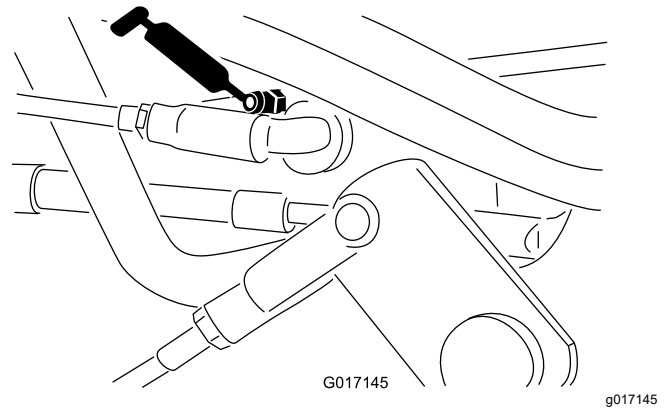
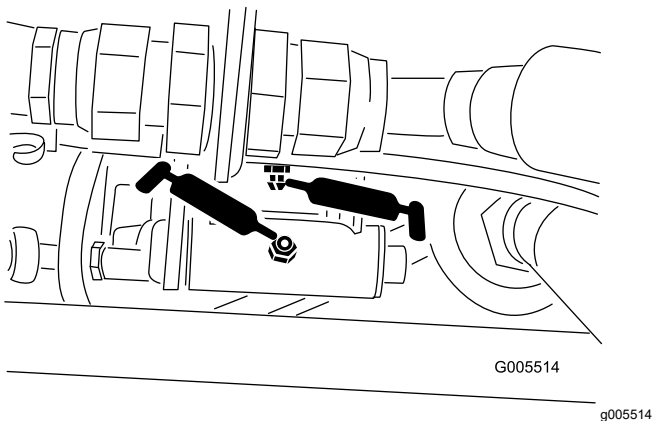

Figure 38
Figure 37
- Speed-selector linkage (Figure 37 and Figure 38)